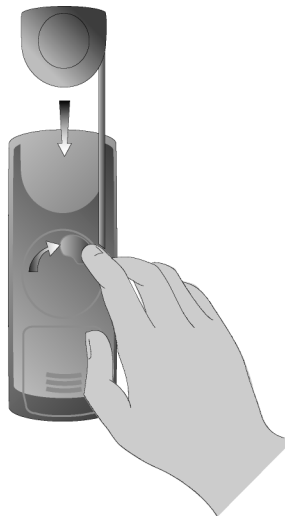

Figure 10. Retracting the programming head.
1. Turn the cable reel in the direction of the arrow until the programming head rests against the programmer (Figure 10).